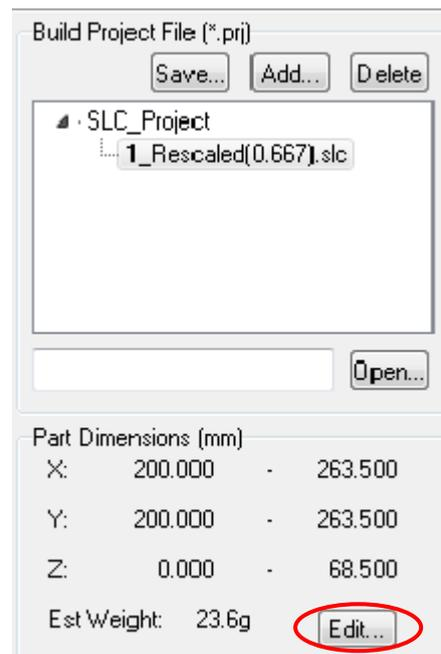

Figure 23. Build Project File Frame
- b) Click the edit (see Figure 23) button in Build Project File to position parts for printing.